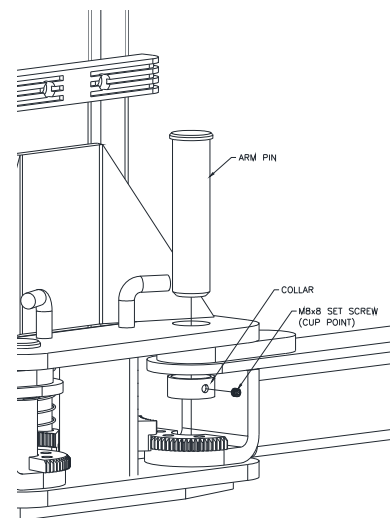

Fig. 11 –Arm Install
- 32) Lubricate the arm pin or carriage arm pin hole with “anti-seize” and install the arms as shown in **Fig 11**. Once the set screw is finger tight against the arm pin, tighten 1/4 turn with allen wrench.